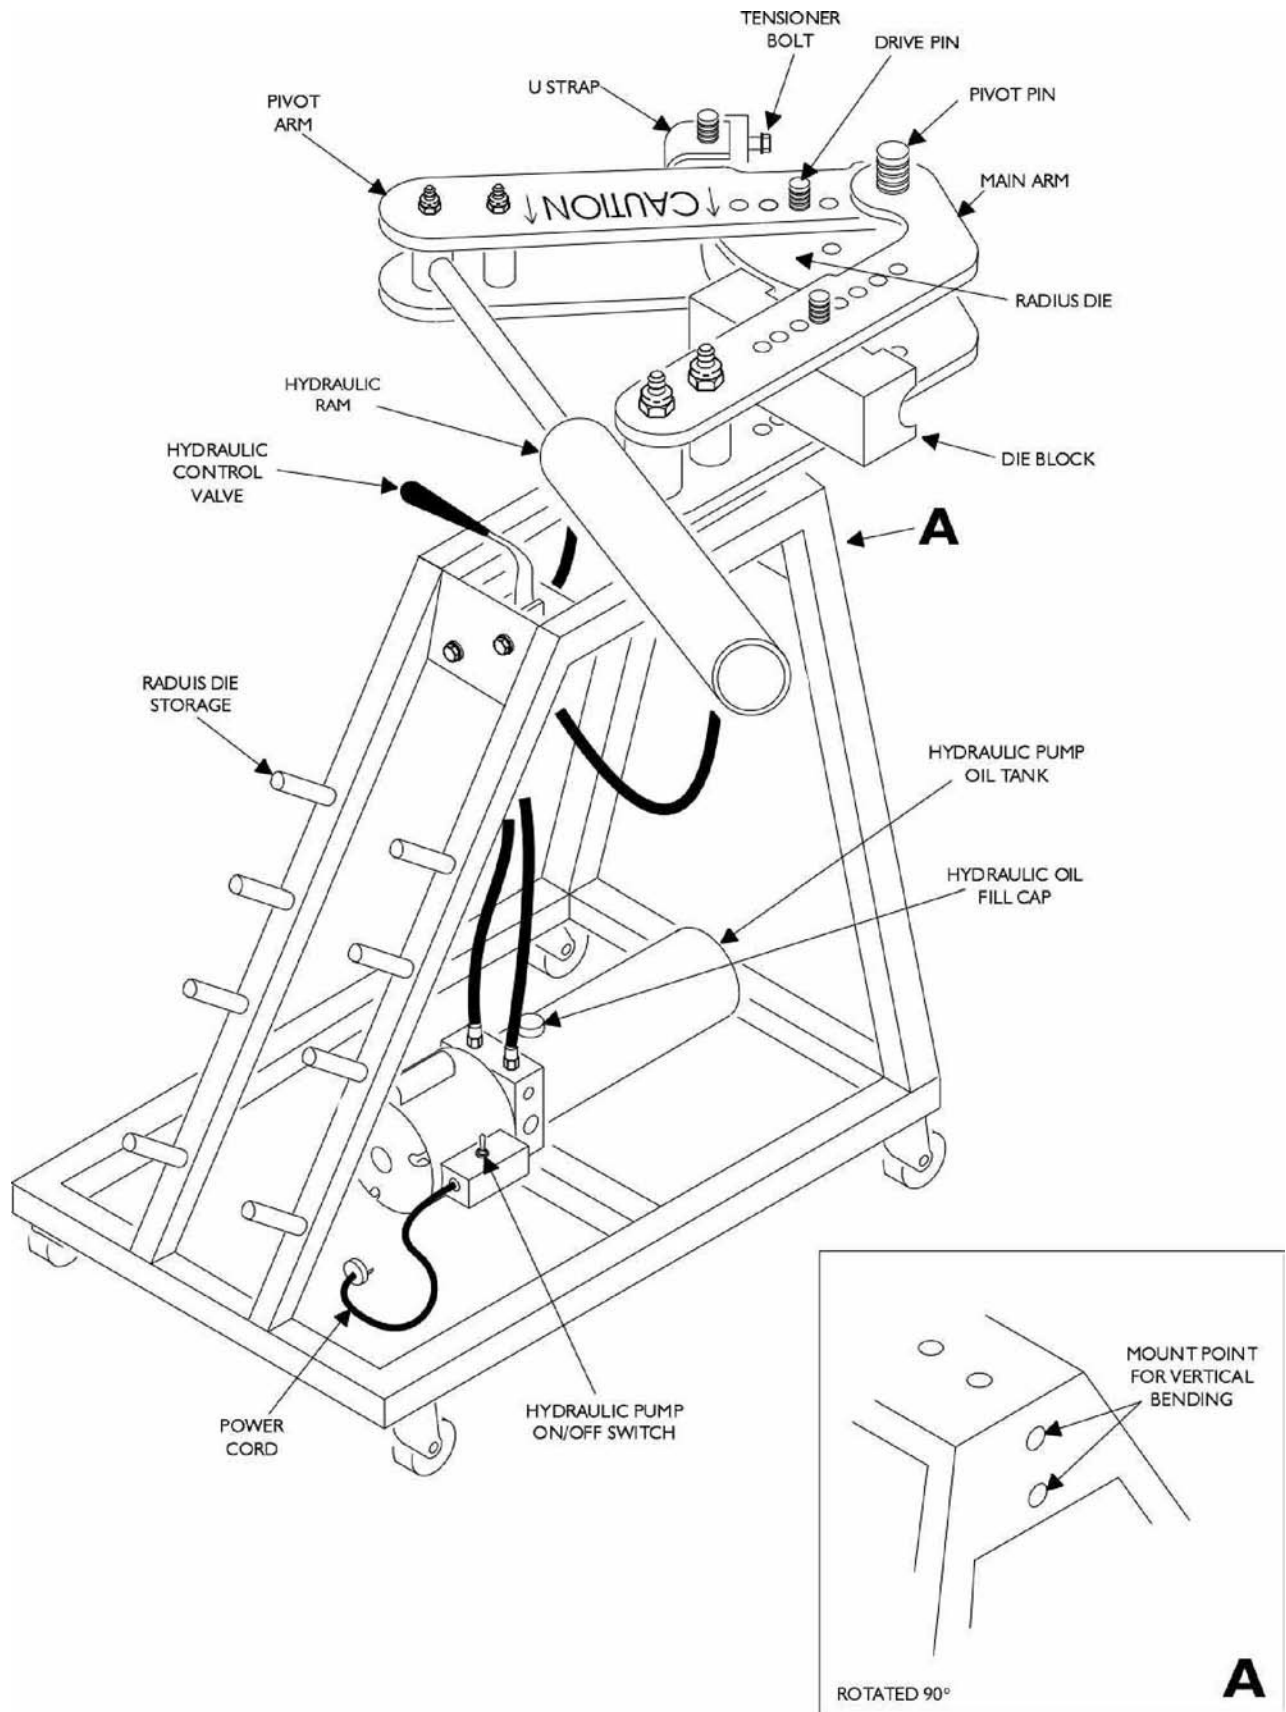

Figure 1. Bender overall view.
4. Using the control valve (down to extend and up to retract), cycle the bender cylinder several times while adding the remaining 1/2 gallon of hydraulic oil. The reservoir will hold exactly 1 gallon of hydraulic oil. See Figure 1.